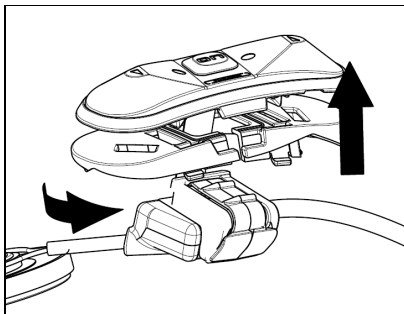

Fig. 15
- Rotate the keypad support so as to position it like in Fig. 15, then hook it to the keypad;